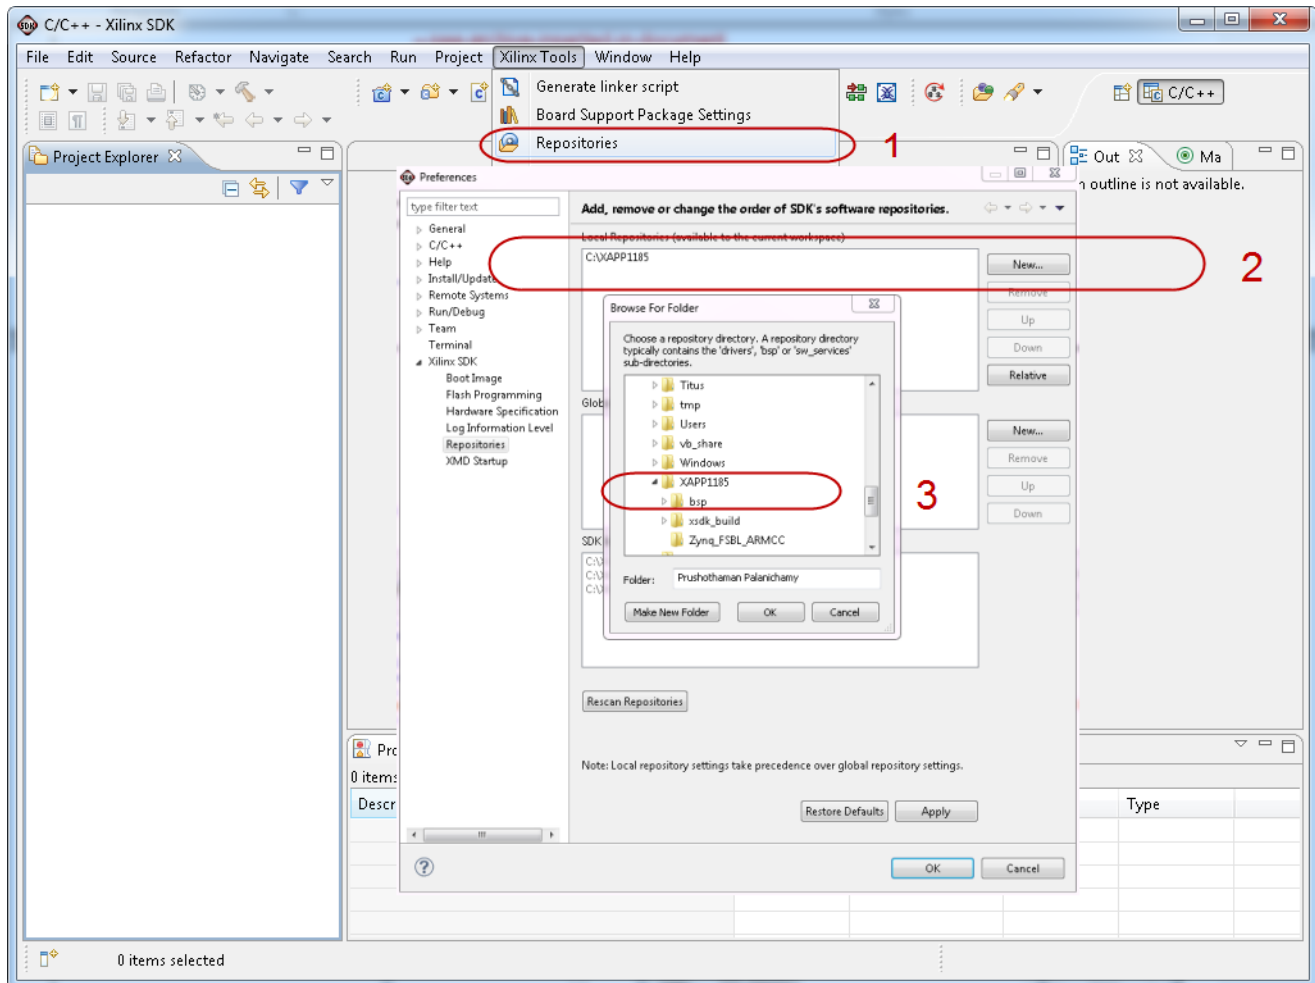

Figure 14: Adding Patched BSP Repository for Projects 2013.3 and Earlier
- c. As shown in Figure 14, select **Xilinx Tools > Repositories** and click **New** on the Local Repositories box.